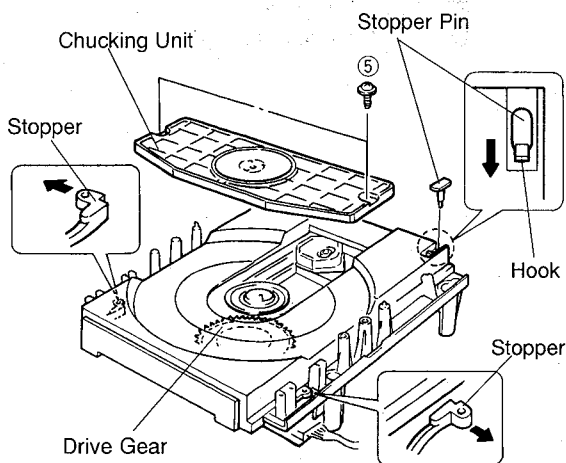

Fig. 3
- a. Remove 2 screws (⑤) and then remove the Chucking Unit in Fig. 3.
- b. Remove 1 hook and then remove the Stopper Pin in Fig. 3.
- c. Rotate the Drive Gear and then open the Tray Unit in Fig. 3.
- d. Detach the Stoppers on both sides and then pull out the Tray in Fig. 3.